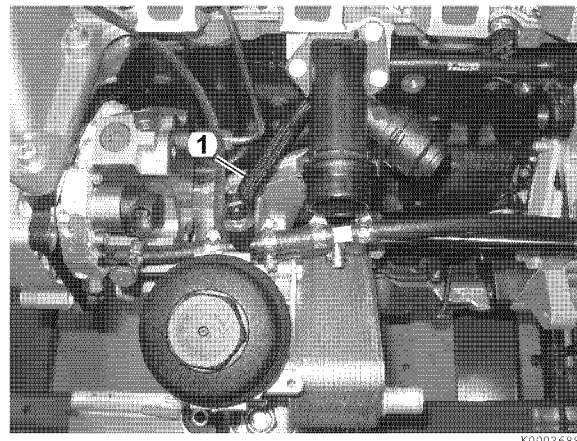

Figure 6-41
5. Disconnect return fuel hose (1, **Figure 6-41**) from fuel tee.